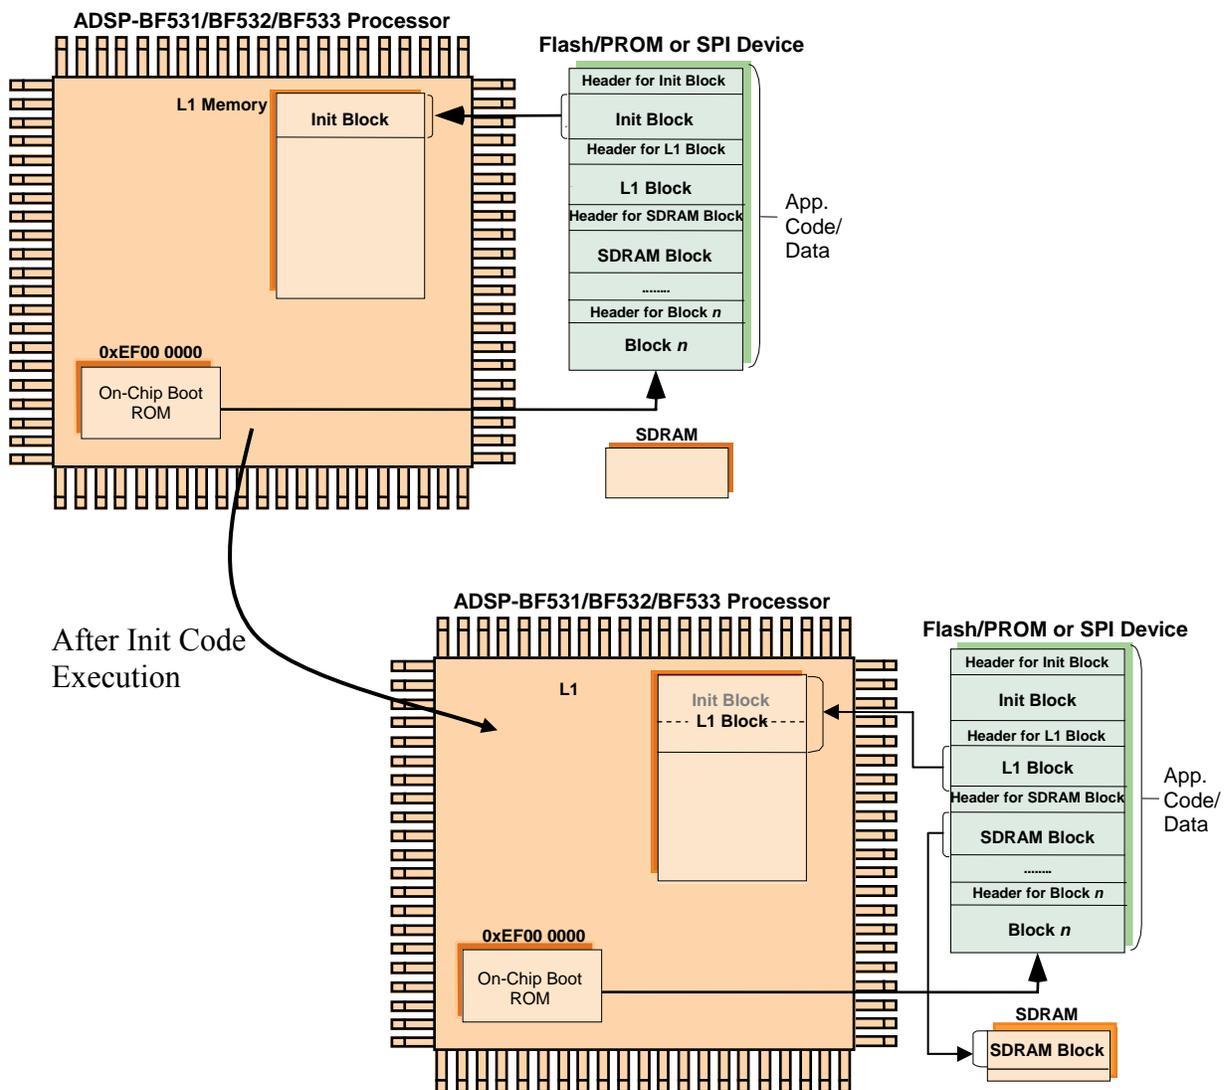

Figure 5. Initialization Code Execution / Boot
- **Bit 3: INIT** – An initialization block (Init Block) is a block of code that executes before the actual application code boots over it. When the on-chip Boot ROM detects an Init Block, it boots the block into internal memory and makes a `CALL` to it (initialization code must have an `RTS` at the end). After the initialization code is executed, it is typically overwritten with application code. See Figure 5.